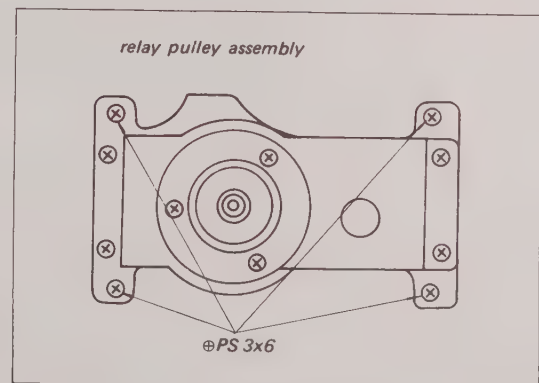

Fig. 5-50. Relay pulley assembly mount
2. Remove the four 3 mm screws shown in Fig. 5-50 and remove the pulley assembly.